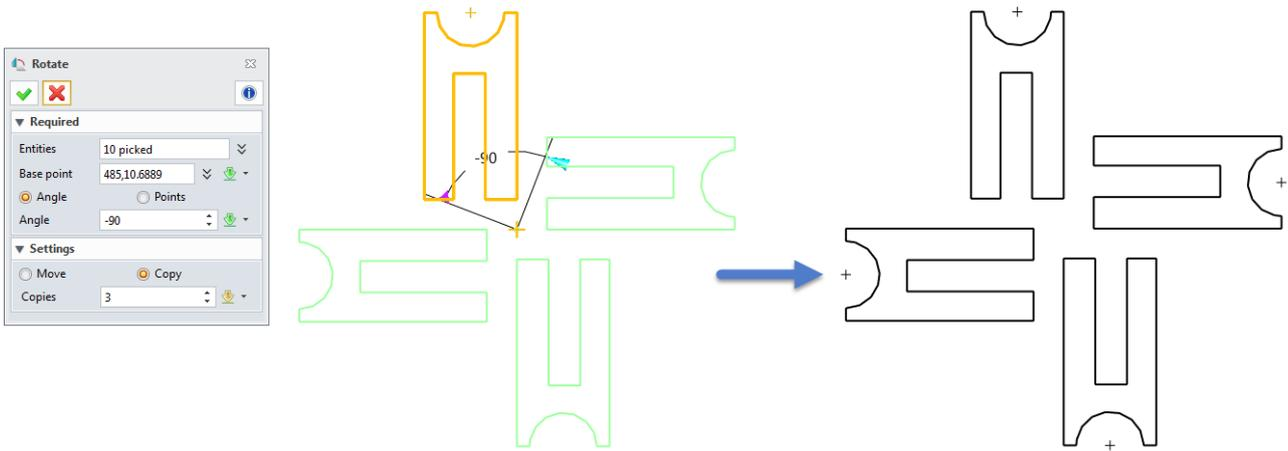

Figure 65 Rotate-Copy the Entities
STEP 03 Select the rotate method: Move (Figure 64) / Copy (Figure 65).